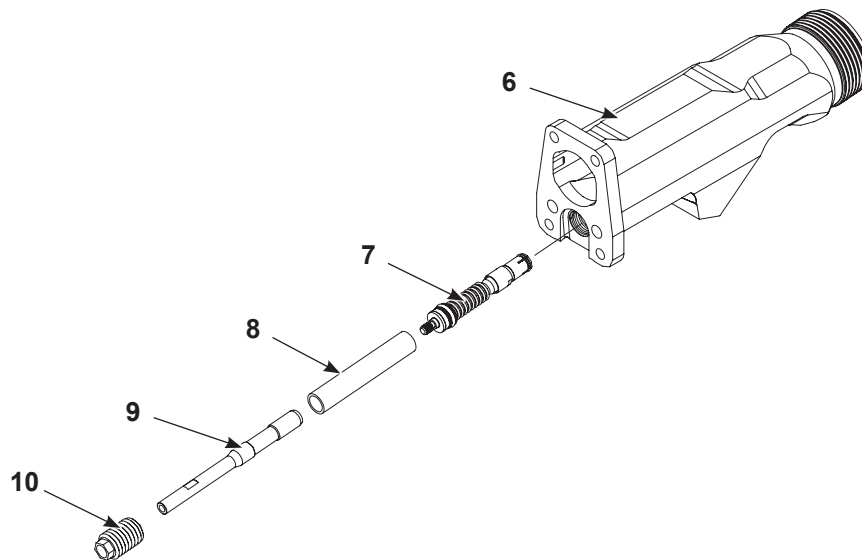

Figure 7-8 Re-Assembly
4. See Figure 7-8. Unscrew the packing cartridge retainer (10) from the extension (6).
2. See Figure 7-8. Apply a removable threadlocking adhesive (Loctite24 2 or equivalent) to the threads of the new packing cartridge (7).
3. Screw the pull shaft (9) onto the packing cartridge.
6. Slide the sleeve (8) over the pull shaft and up against the packing cartridge.
11. Install the extension (6) onto the spacer.